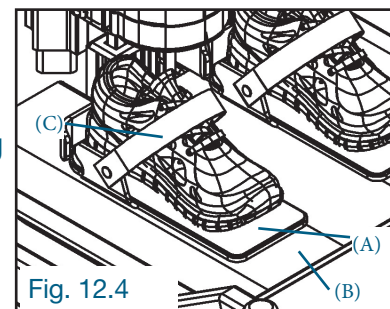

Fig. 12.4
12.4 FOOT SUPPORT ADJUSTMENT (Fig. 12.4)